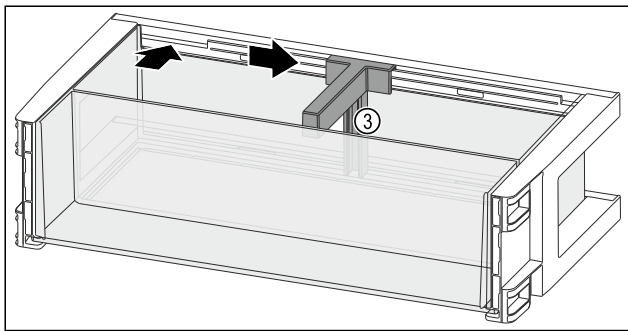

Fig. 113
- ▶ Insert the bottle holder Fig. 113 (3) into the recess.
- ▶ Push the bottle holder Fig. 113 (3) to the side into the desired position.